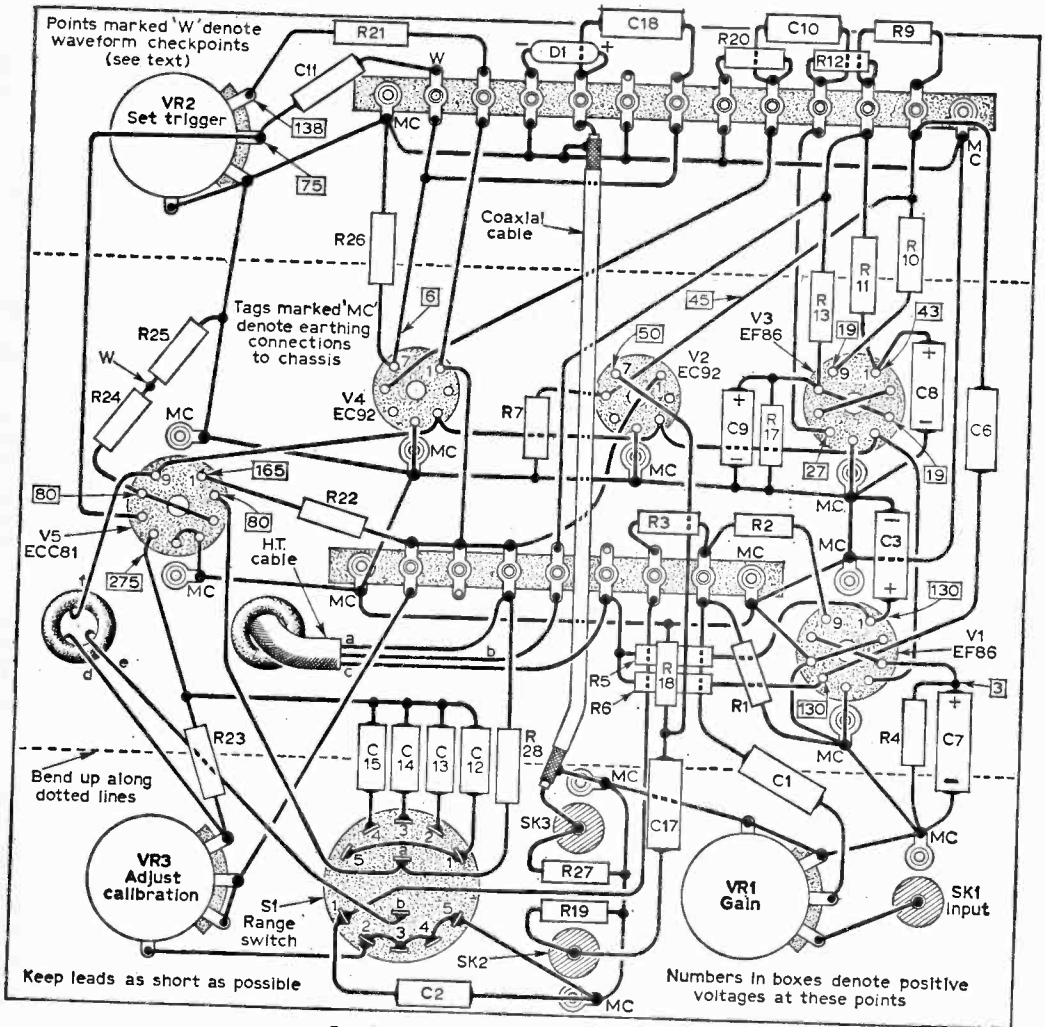

Fig. 4—The underchassis wiring diagram.
of the waveform at V3 anode is not sharp enough, due to stray capacities, triggering of V5 may be erratic or absent. It is thus essential to use neat short wiring for V3 anode, R12, C10, R20 and V4 grid. All leads should be of the absolute minimum length consistent with Fig. 4, and all other components should be bent to lie somewhat removed from the leads concerned and the critical components named.
*I*N Fig. 4 (page 1038 last month) a simplified version of the record/playback change-over system was given.